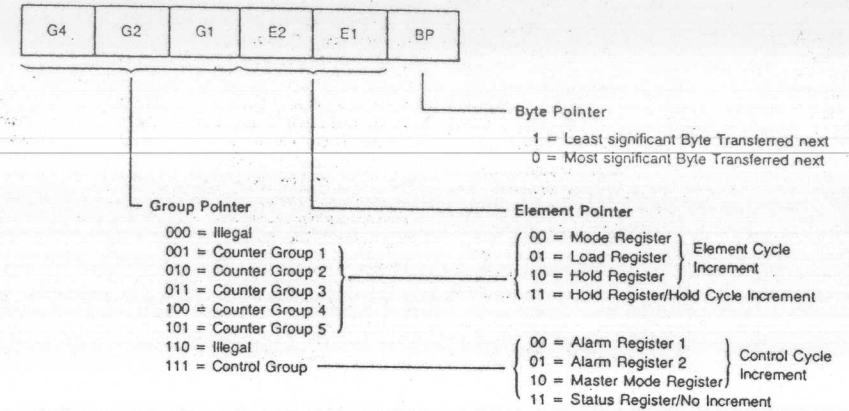
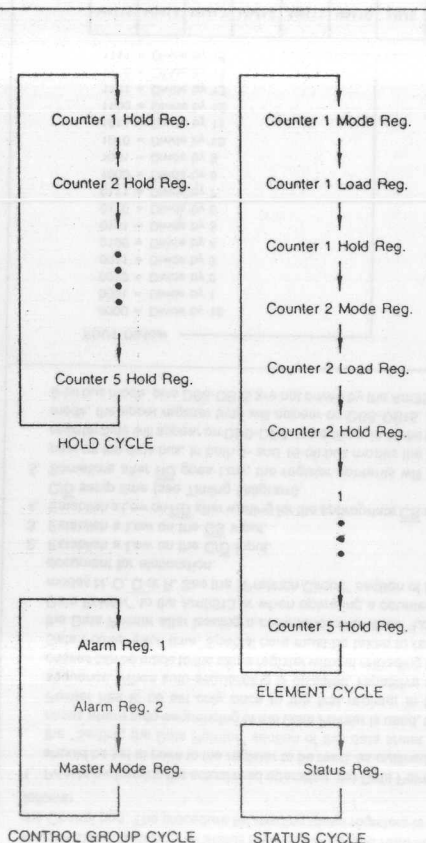

Figure 8. Data Pointer Register.
Figure 10. Data Pointer Sequencing.
The Data Pointer consists of a 3-bit Group Pointer, a 2-bit Element Pointer and a 1-bit Byte Pointer, depicted in Figure 8. The Byte Pointer bit indicates which byte of a 16-bit register is to be transferred on the next access through the data port. Whenever the Data Pointer is loaded, the Byte Pointer bit is set to one, indicating a least-significant byte is expected. The Byte Pointer toggles following each 8-bit data transfer with an 8-bit data bus ($MM13$ = 0), or it always remains set with the 16-bit data bus option ($MM13$ = 1). The Element and Group pointers are used to select which internal register is to be accessible through the Data Port. Although the contents of the Element and Group Pointer in the Data Pointer register cannot be read by the host processor, the Byte Pointer is available as a bit in the Status register.
To permit the host processor to rapidly access the various internal registers, automatic sequencing of the Data Pointer is provided. Sequencing is enabled by clearing Master Mode bit 14 ($MM14$) to zero. As shown in Figure 10, several types of sequencing are available depending on the data bus width being used and the initial Data Pointer value entered by command.
1. Using Figures 8 and 9, select the appropriate Data Pointer Group and Element codes for the register to be accessed. Note that two codes are provided for the Hold registers, to accommodate both the Hold Cycle and Element Cycle auto-sequencing modes shown in Figure 10. If auto-sequencing is disabled, either Hold code may be used.
2. Using the "Writing to the Command Register" procedure given above, write the appropriate "Load Data Pointer" command to the Command register. Note that the command summary in Figure 21 has the Group field and Element field switched from the format given in Figure 8.
The Data Pointer register is now set. Setting the Data Pointer register automatically sets the Byte Pointer to 1, indicating a least significant byte is expected for 8-bit data bus interfacing. If Master Mode register bit MM14 = 0, the Data Pointer will automatically sequence through one of the cycles shown in Figure 10 after reading or writing each register. For convenience, bit MM14 can be set or cleared by software command.